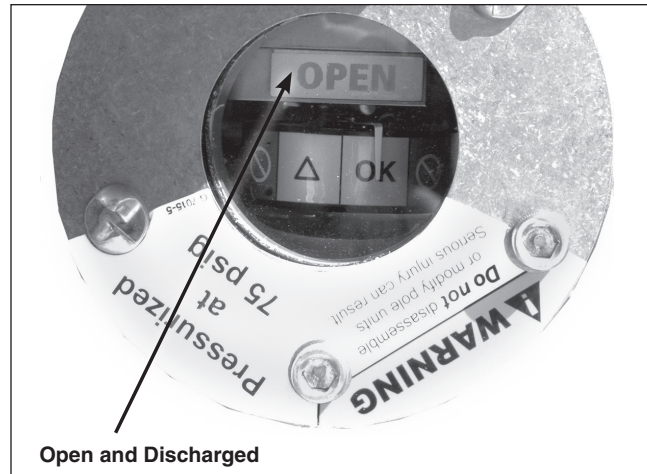

Figure 9. Check that all three pole-units are open and discharged.
- STEP 3.** Check that all three pole-units are open and discharged. See Figure 9 on page 10.